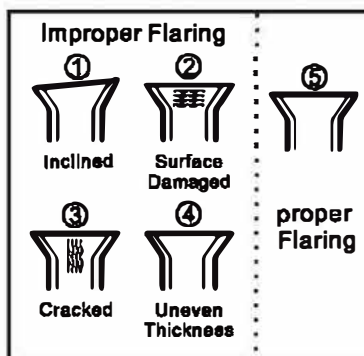

Fig. 411
- 3) Flare the pipes. Insert the pipe outlet into the copper nut before flaring the pipe. Ensure that the hole is flat with sound surface and even thickness. (Fig. 411)